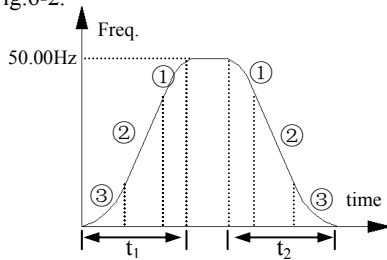

Fig.6-2 S curve Acce/Dece
**1: S curve Acce/Dece mode.** Output frequency increases or decreases according to S curve, just as shown in Fig.6-2.
S curve starting time is shown as Fig. 6-2③, slope of output frequency variation increases by degrees from 0.
S curve rising time is shown as Fig.6-2②, slope of output frequency variation is constant.
S curve ending time is shown as Fig.6-2①, slope of output frequency variation steps down to 0.